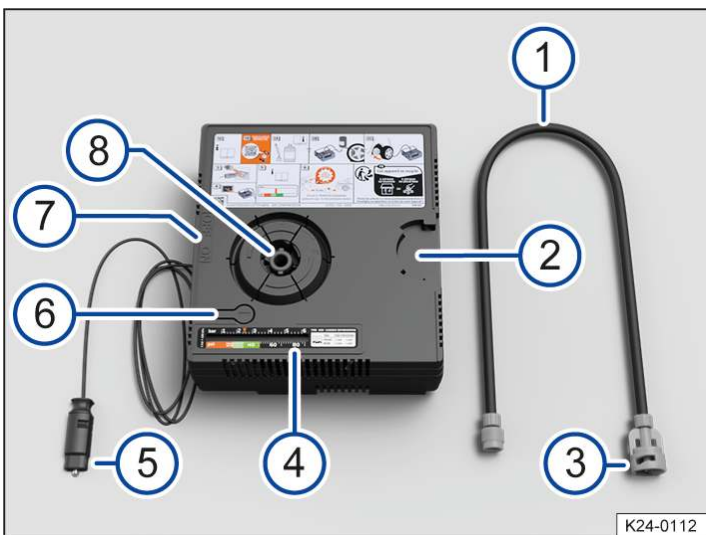
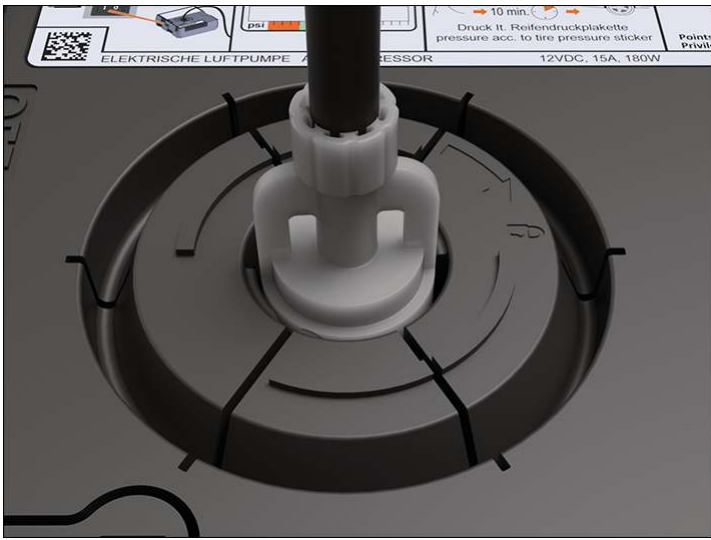

Fig. 5 Compressor in the breakdown set (illustration).
Fig. 6 Connecting the tyre filler hose.
4. Remove the tyre filler hose → Fig. 5 (1) from the rear of the compressor.
5. Insert the tyre filler hose → Fig. 5 (1) with the wing nut → Fig. 5 (3) into the mount for the tyre filler hose → Fig. 5 (8) so that the wing nut is pointing to ☞ → Fig. 6.
6. Turn the wing nut → Fig. 5 (3) in clockwise direction until the wing nut is pointing to ☞ → Fig. 6.
7. Screw the tyre filler hose → Fig. 5 (1) of the compressor tightly onto the valve of the tyre filler bottle → Fig. 4 (1).
9. Hold the bottle upside down and press the top of the tyre filler bottle into the notch in the compressor → Fig. 5 (2).
10. Place the compressor → Fig. 5 together with the tyre filler bottle → Fig. 4 on a level surface.
12. Insert the 12-volt plug → Fig. 5 (5) into one of the vehicle's 12-volt sockets (→ Sockets).
13. Switch on the compressor with the ON/OFF switch → Fig. 5 (7).
2. Reconnect the tyre filler hose → Fig. 2 (1) or → Fig. 5 (1) and read off the tyre pressure on the tyre pressure display → Fig. 2 (3) or → Fig. 5 (4).